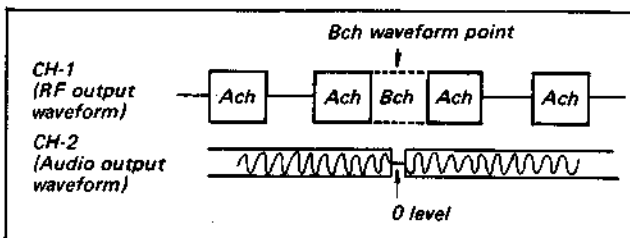

Fig. 3-52. Position adjustment of ACE assembly (1)
2. Play back the 1 MHz segment of alignment tape KR5-1H. (See Fig. 3-52).
3. Set the tracking control to the center, detent, position and confirm that the output waveform level is maximum and the 0 level point of the audio signal appears at the Bch waveform point as shown in Fig. 3-52. If the specification is not satisfied, perform the following Step 4.
6. Loosen the two position adjusting screws of the ACE head and adjust the cut-out section of section A for maximum RF output waveform and a 0 level of audio signal at the Bch waveform point. (See Fig. 3-52.)